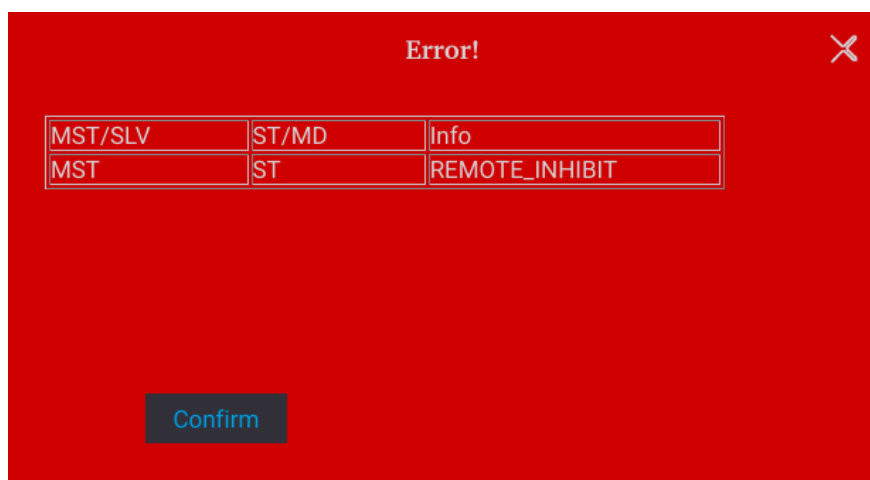

Figure 3-83
- When protection occurs to REMOTE INHIBIT the main page will appear the protection message as Figure 3-83 shows.